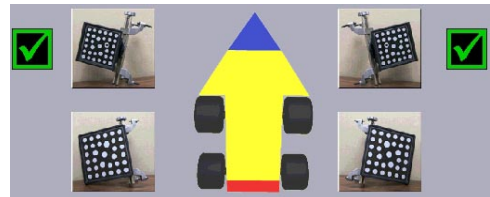

Figure 3-111
7. After the test completes a check mark should appear beside the target being checked. (Figure 3-111)